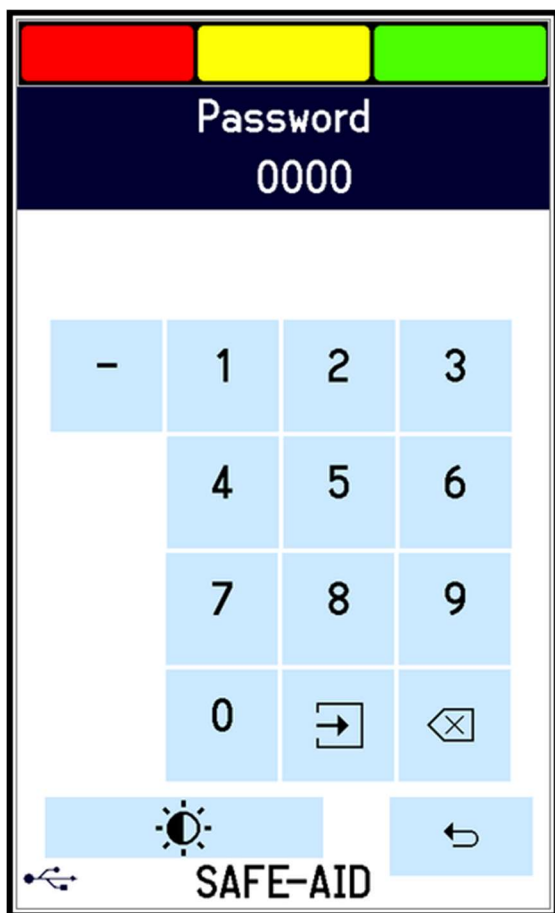

Figure 29
SCREEN BRIGHTNESS – FIGURES 29 & 30
1. Press the top left hand corner and the **Password** screen will be displayed (figure 29).